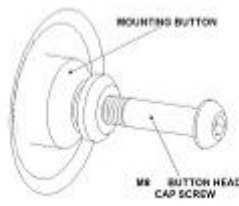
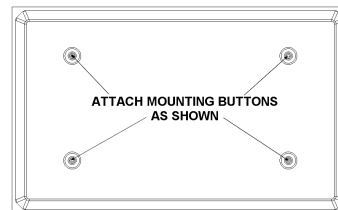

Figure 3
Figure 4
2. Attach the mounting buttons to the display using M8 bolts. Tighten using the included Allen key (see Figure 3 & Figure 4).